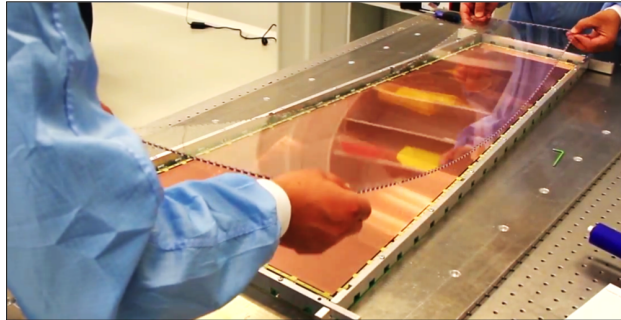

Figure 102: Removing the plexiglass cover.
Step 4: When all the screws are in place, remove the Plexiglas cover (Fig. 102).